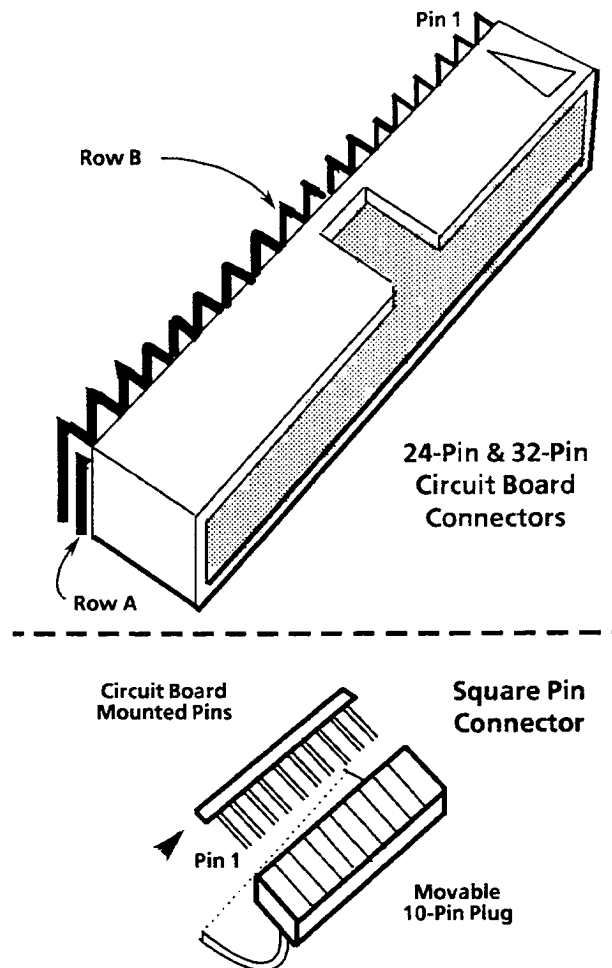

Figure 8–27: Multiple pin connectors
**24 & 32 Pin Connectors.** The male connectors on the cables fit into the connectors that are mounted on the circuit boards. A triangular symbol identifies pin 1 on both connectors, and the remaining pins are numbered. See Figure 8–27.